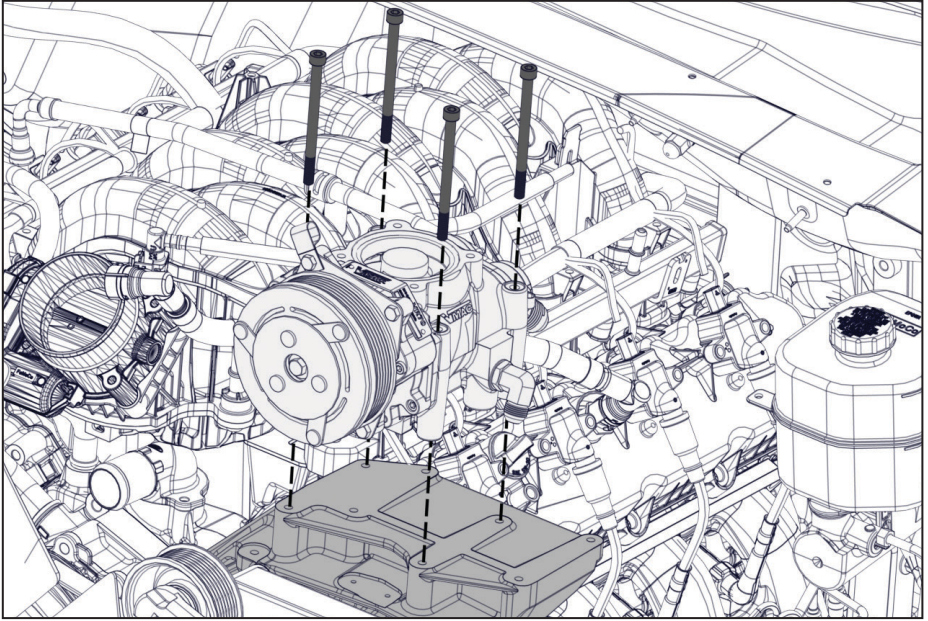

Figure 44 — Install Compressor
- ☐ Position the compressor on the mounting bracket and secure it using the (x4) supplied bolts; torque the compressor bolts to specification (Figure 44).